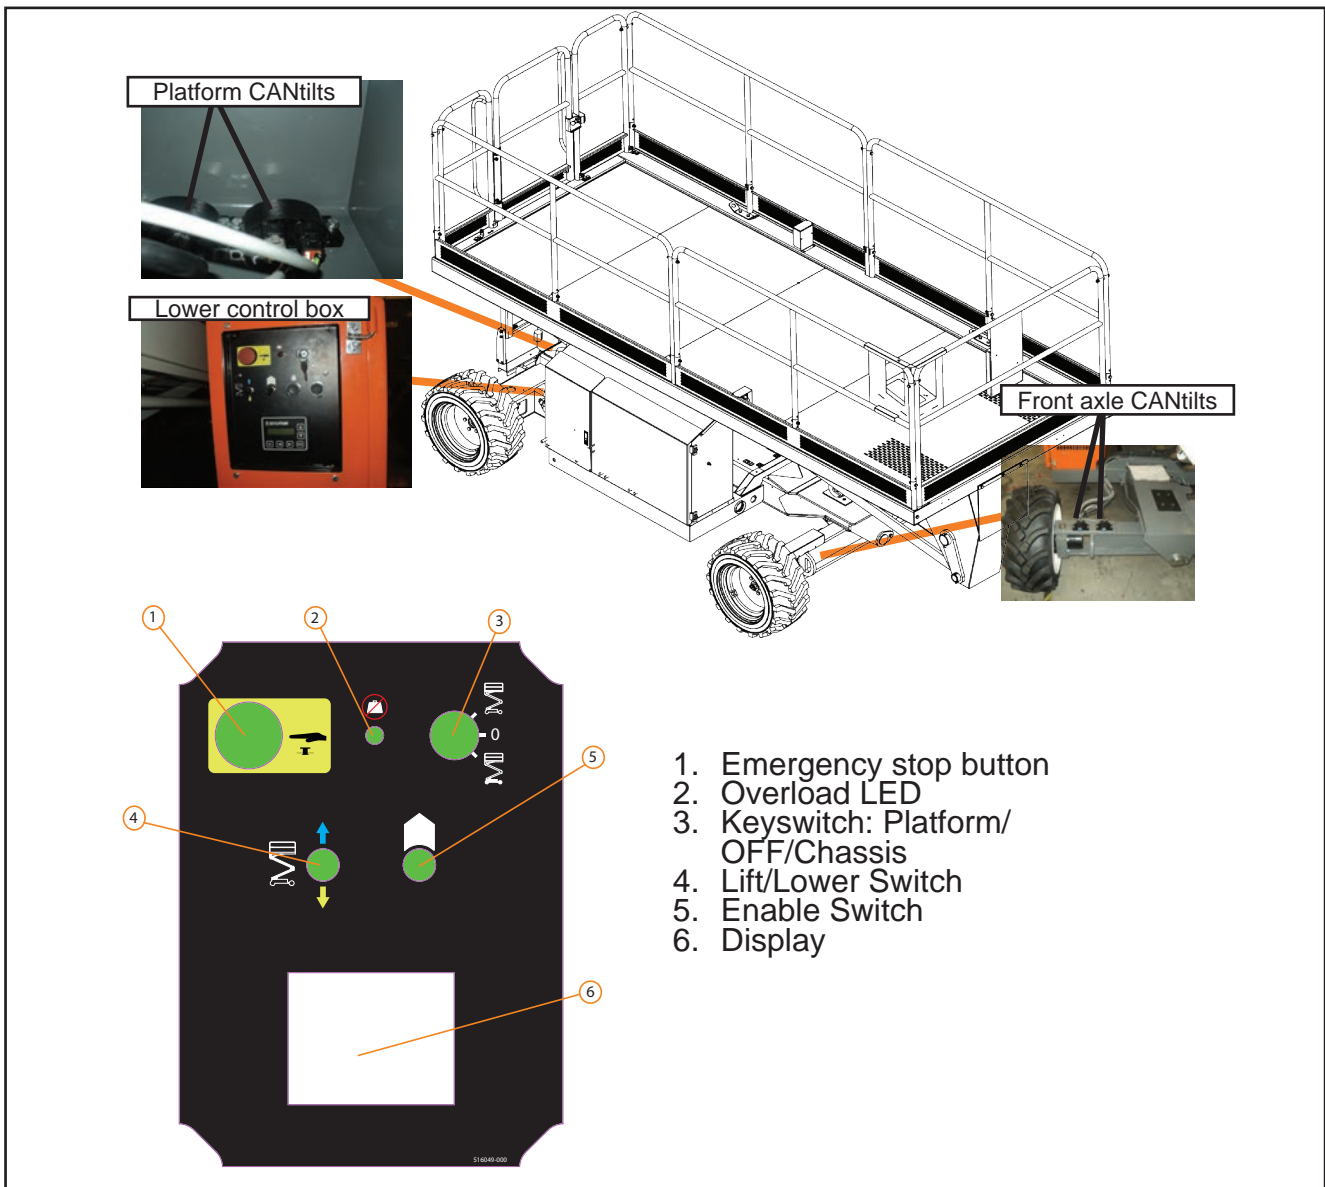

Figure 3-11: Platform CANtilts, Lower control box and Front axle CANtilts location
1. Select platform controls from the ground control box(#3). Release the ground “Emergency stop button”(#1) and enter the platform (refer to Figure 3-11).